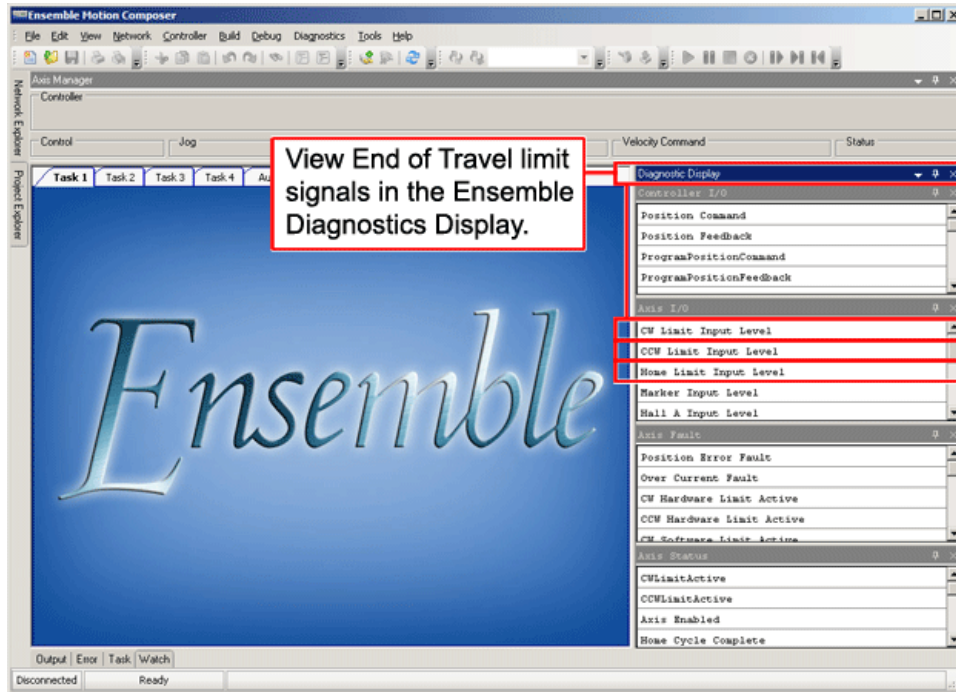

Figure 2-27: Limit Input Diagnostic Display
End of Travel (EOT) limits are required to define the end of the physical travel on linear axes. Positive or clockwise motion is stopped by the clockwise (CW) end of travel limit input. Negative or counterclockwise motion is stopped by the counterclockwise (CCW) end of travel limit input. The Home Limit switch can be parameter configured for use during the home cycle, however, the CW or CCW EOT limit is typically used instead. All of the end-of-travel limit inputs accept 5-24 VDC level signals. Limit directions are relative to the encoder polarity in the status display (refer to Figure 2-27).
If the EOT limits are reversed, you will be able to move further into a limit but be unable to move out. To correct this, swap the connections to the CW and CCW inputs at the J104 connector. The logic level of the EOT limit inputs may be viewed in the diagnostic display (shown in Figure 2-27).